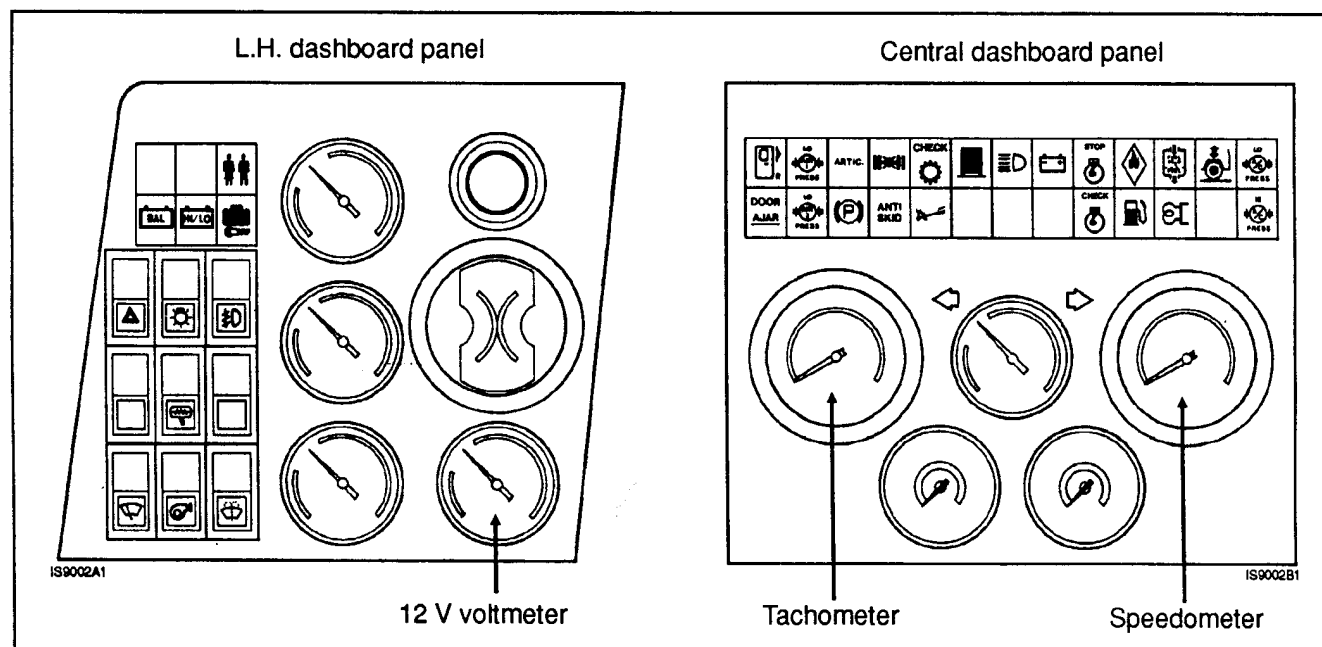

Figure A.1
10. Strip other extremity of yellow wire, crimp a ring terminal #56-0815, and connect it to the 12 volt voltmeter feed. See figures A.1 and A.2.